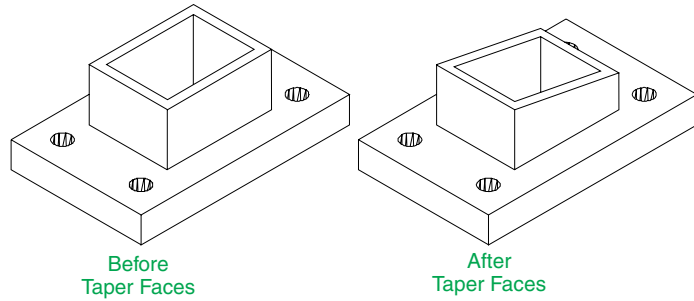

Fig. 18.12 Fifth example – **Taper faces tool**
Fifth example – Taper faces tool (Fig. 18.12)
- Construct the 3D model as in the left-hand drawing of Fig. 18.12. Place in the **3D Navigate/Southwest Isometric** view.
And the selected face tapers as indicated in the right-hand drawing (Fig. 18.12).